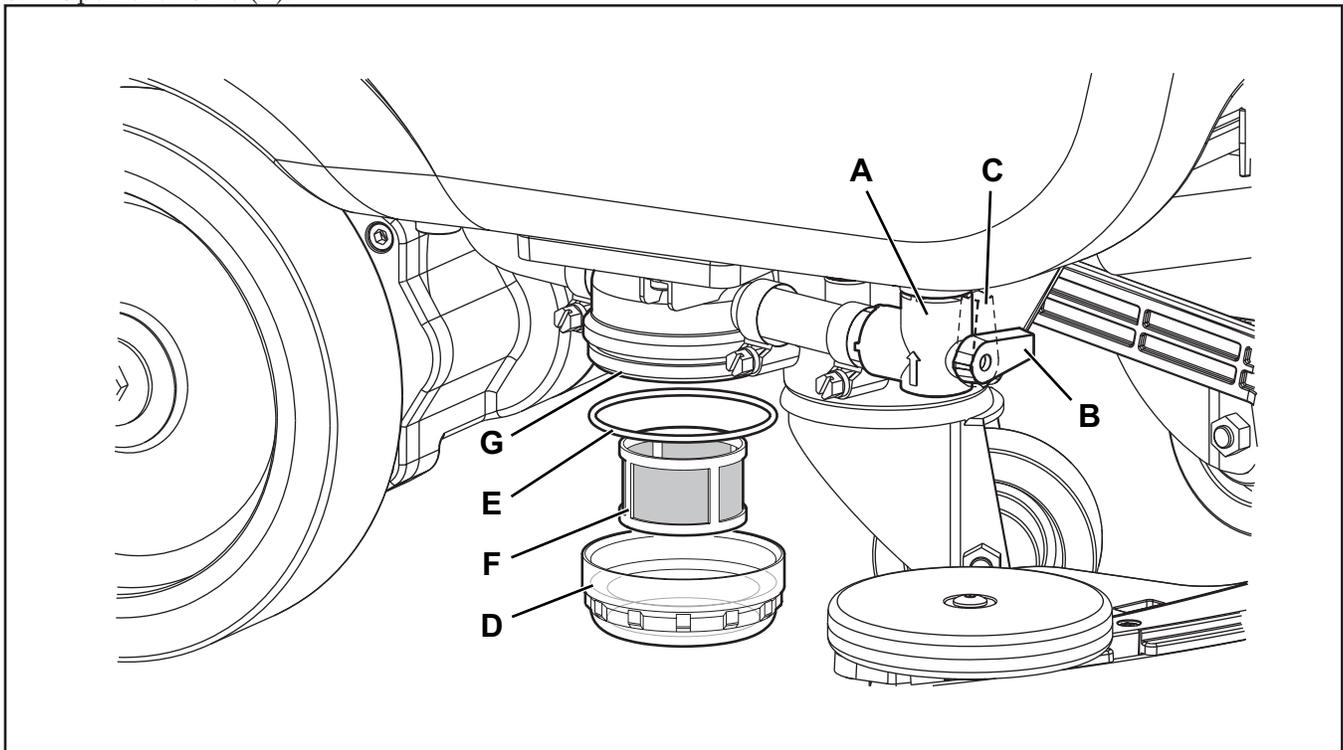

Figure 5
4. Close the detergent solution valve (A) (Figure 5). The valve (A) is closed when it is in position (B) and it is open when it is in position (C).
5. Remove the transparent cover (D) and the gasket (E), then remove the filter strainer (F). Wash and rinse them, then refit them carefully onto the filter support (G).
6. Open the valve (A).